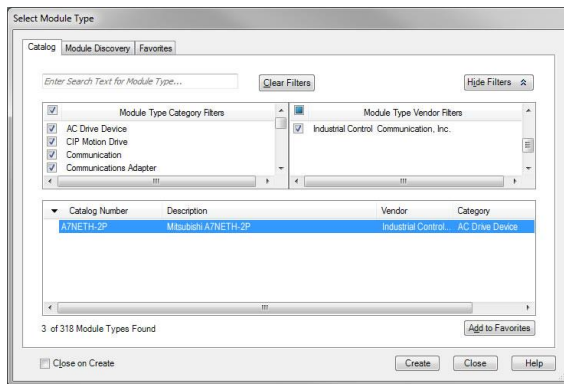

Figure 18: Adding a New Interface Card Module
- 11) Find the interface card in the “Select Module” dialog box as shown in Figure 18.